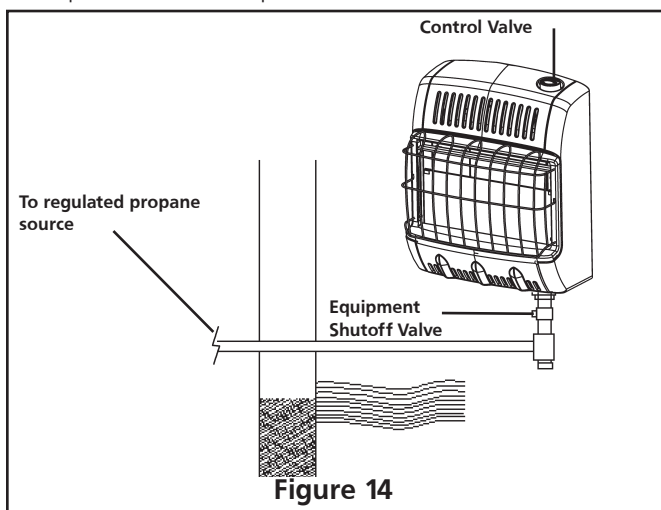

Figure 14
3. Check all joints from the propane/LP supply valve to equipment shutoff valve (see figure 14). Apply mixture of liquid soap and water to gas joints. Bubbles forming show a leak.